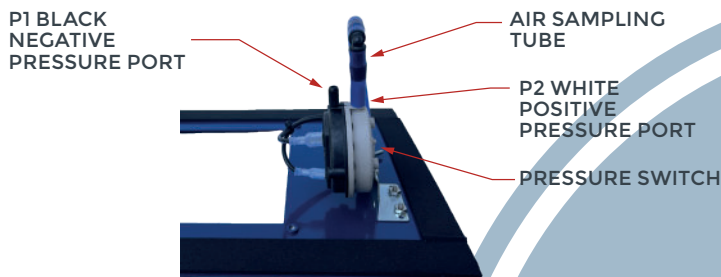

FIGURE 1
- If the unit is to be mounted on the negative pressure or return side of the duct system, the plastic air sampling tube must be moved from the P2 (white) to the P1 (black) position on the pressure switch (See Figure 1).